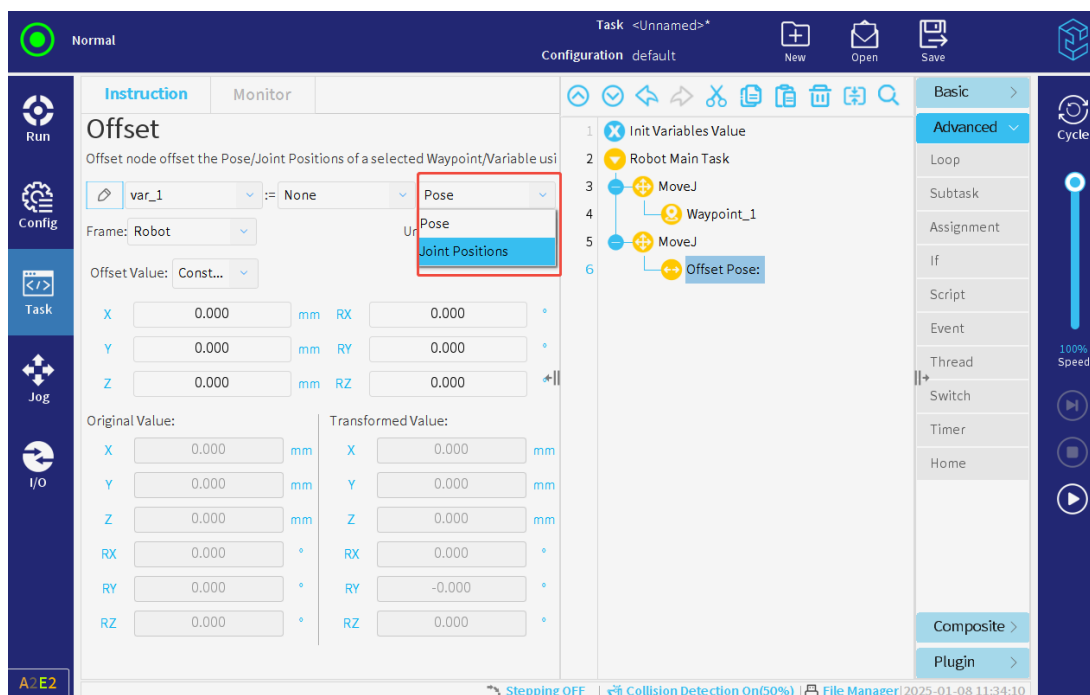

Figure 3-111 : Select Data Type for the Waypoint
- If the data source is a waypoint, then tap the last box at the first line to select "Pose" or "Joint Positions" as the data type for the waypoint, as shown in **Figure 3-111**.